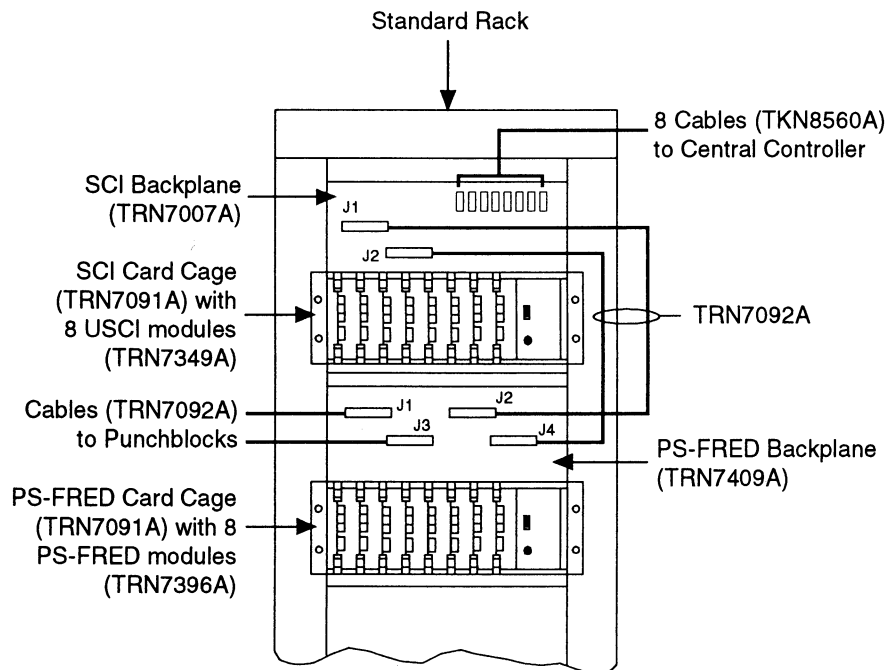

Figure 9. Front View of USCI in a Rack Mount
Step 4. Refer to Figure 9. From the front of the rack, place the USCI card cage in the rack.
If you are upgrading the system to Four-level Recovery Encode Decode (FRED) at a later date, leave rack space for the Prime Site FRED card cages. The FRED card cages has the same dimensions as the USCI card cage. One Prime Site FRED accommodates eight secure channels. Refer to Figure 9 for the recommended rack configuration for implementing FRED.
- Step 3. From the front of the USCI card cage, slowly insert the power supply module in the far right side of the USCI card cage. Refer to Figure 9.